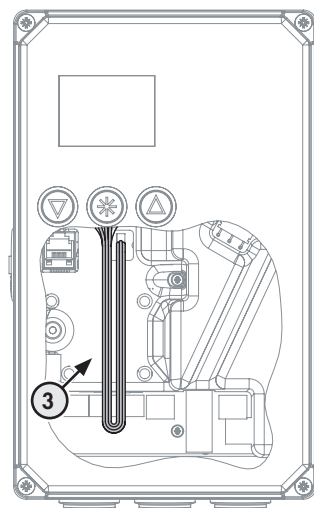

Fig. 10: Connection for special version with three-key operation
- ➔ Refer to Fig. 10.
- ➔ Make sure the connecting cables (1) of the housing cover are not damaged by tensile load.
- 2. Move the housing cover to the position as shown in Fig. 10:
- 5. Loosen the screw (2), while holding the housing cover to ensure the connecting cables (1) of the housing cover do not get damaged by tensile load.
- 6. Place the housing cover on the housing and route the connecting lines in the housing as shown in Fig. 10.